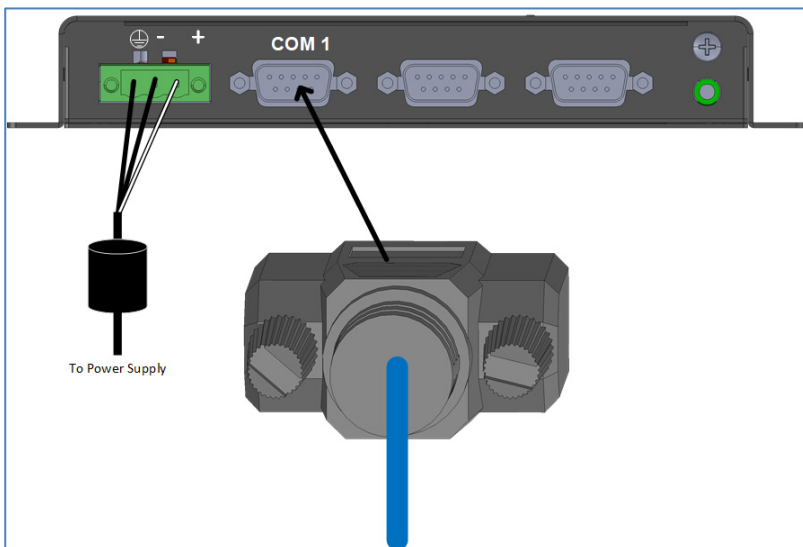

Figure 10: Insert 9 Pin Connector
1. Insert the Junction Box 9-Pin Connector into COM1 (see Figure 10).